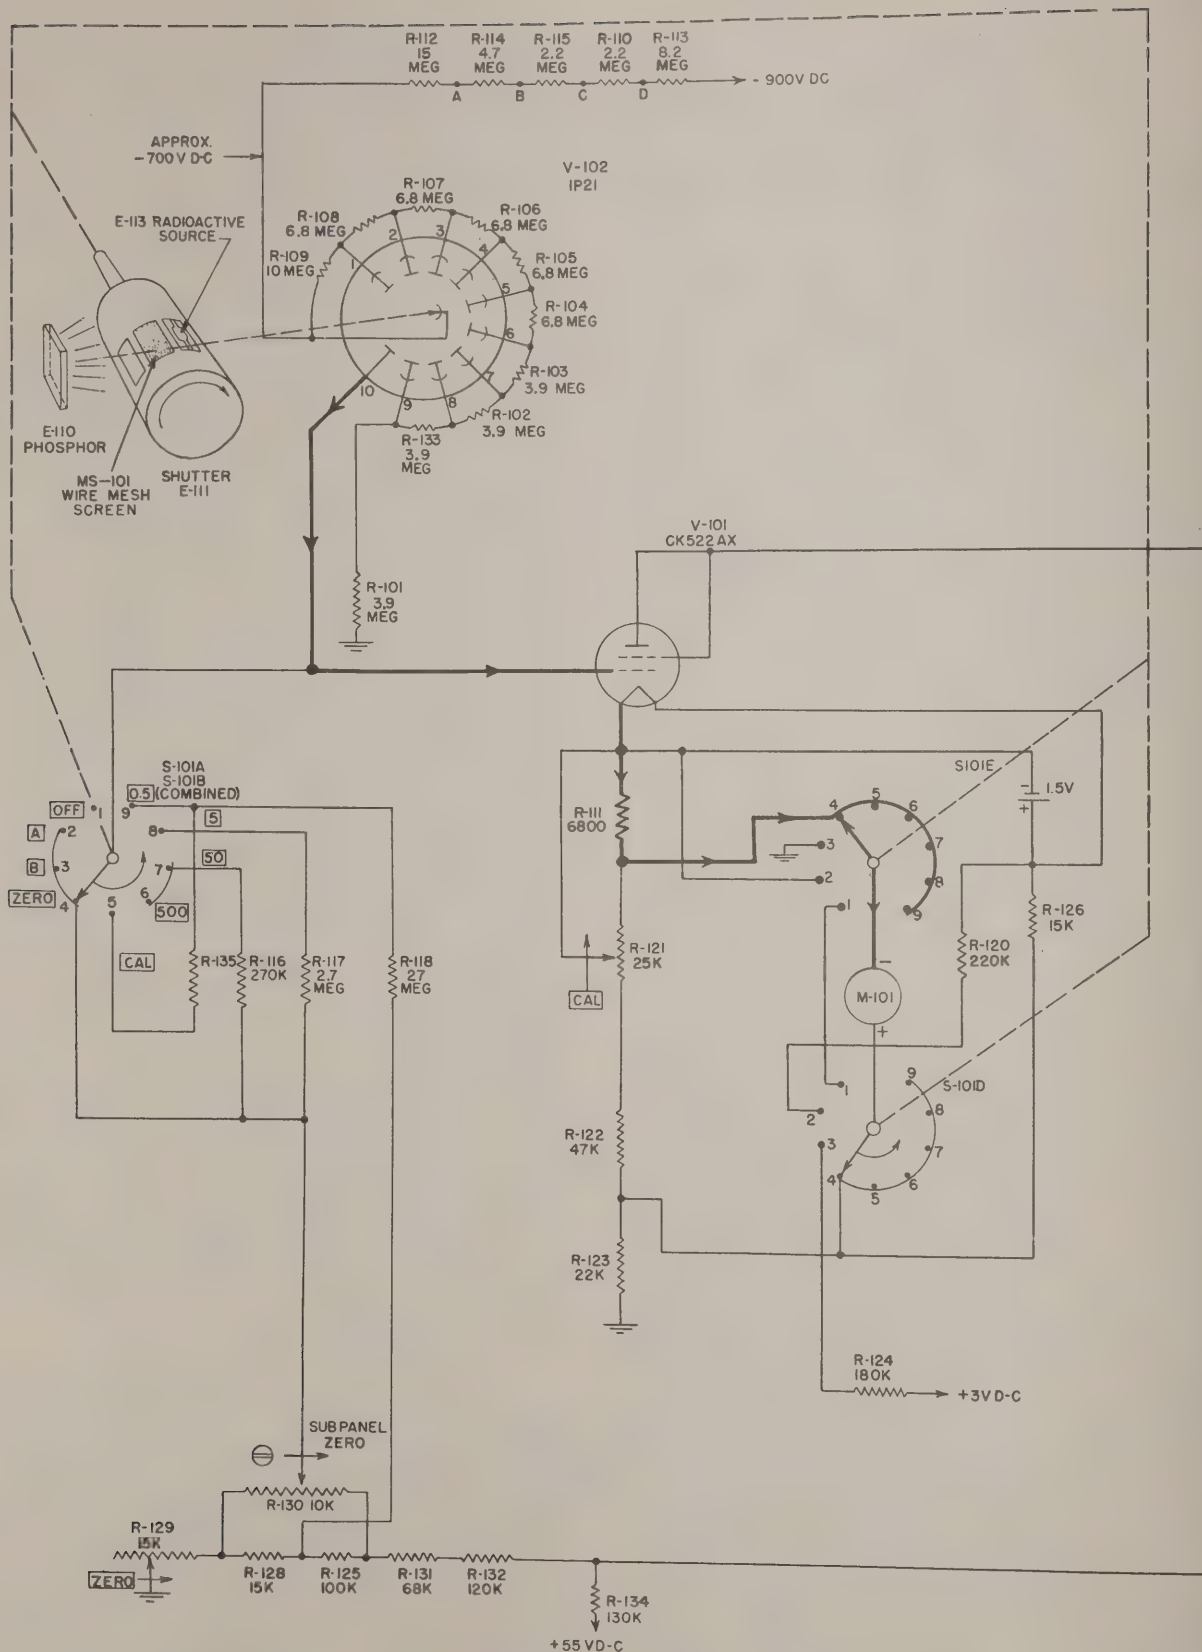

Figure 2-2. Radiacmeter IM-75/PDR-18A, Simplified Schematic Diagram
(1) The gamma radiation detection circuit of the Radiacmeter IM-75/PDR-18A, shown in figure 2-2 consists of a phosphor detector, E-110, a shutter, E-111, including Strontium-90 radioactive calibration source and a photomultiplier tube, V-102. The shutter is a rotatable cylinder surrounding the tube V-102. There are three apertures in the shutter E-111. When the range selector switch S-101 is turned to the CAL position, the shutter E-111 is rotated so that the radioactive calibration source contained in the first aperture is positioned in front of the phosphor detector E-110. The calibration source emits only beta rays which excite the phosphor detector E-110. Light from the phosphor E-110 passes through that part of the aperture of shutter E-111 not occupied by the calibration source and strikes photomultiplier tube V-102. Under this condition the circuit is adjusted for full scale deflection with the CAL control. When the selector switch is at the 500 position the shutter is positioned so that the second or middle aperture, which is covered with a fine mesh screen, is placed between the phosphor detector E-110 and the tube V-102. This screen is necessary to attenuate the light from the phosphor, on the highest range, because it is bright enough to cause a nonlinear response of the photomultiplier tube V-102. In the 50, 5, 0.5 positions of the selector switch, the shutter is positioned so that the third and largest aperture is placed between the phosphor detector E-110 and V-102. Photomultiplier tube V-102 contains a cathode, nine multiplying anodes and one collector anode. The nine multiplying anodes are called dynodes and function as secondary electron emitters. The potential of the cathode is highly negative with respect to ground while each dynode is progressively less negative until the collector is reached, which is practically at ground potential. Light quanta from the phosphor striking the cathode causes it to emit a number of electrons, proportional to the light quanta, in the direction of dynode 1. Since dynode 1 is positive with respect to the cathode, electrons are accelerated towards it. Each electron striking dynode 1 releases a number of secondary electrons which are attracted by another potential gradient to dynode 2, thus multiplying the current. This multiplication is repeated nine times through the dynodes producing a current gain of approximately one million. At the end of the dynode series, the collector anode attracts the electrons. The load resistor for V-102 is selected by section 1 of the range selector switch S-101, as shown in figure 2-2. The values of load resistors R-116, R-117, R-118 vary by a factor of ten as do the meter ranges. The signal voltage across the selected load resistor is applied to the control grid of V-101 which is operated as a cathode follower. Microammeter M-101 reads the change in cathode current resulting from the signal voltage on the control grid of V-101.
(2) The potential difference between each dynode of V-102 is determined by the bleeder resistor network R-101 through R-109, and R-133. A larger potential difference is applied between each of the first five dynodes than between each of the last four dynodes. The signal-to-noise ratio of V-102 is improved when the first few dynode stages are thus operated at a relatively high potential difference. However, such operation also results in increased over-all gain and increased current from collector anode 10. In order to limit the over-all current gain and to limit the maximum collector current to a safe value, a relatively low potential difference is applied between each of the last four dynode stages. Thus, a satisfactory signal-to-noise ratio results at a safe operating current for V-102. The potential difference between each of the first five dynode stages is about 75 volts while that between each of the last four dynode stages is only about 45 volts. The maximum current for collector anode 10 is limited to about 6 microamperes.
(3) Each photomultiplier tube has a different over-all current gain. The over-all current gain is determined by the total operating voltage applied to the cathode and, in proportion, to the various dynode stages. Hence, when changing tube V-102, it may be necessary to vary the total applied voltage in order to bring the current gain to satisfactory operating value. This is done by short-circuiting one or more of the resistors R-110, R-114 and R-115 at points A to D as shown in figure 2-2.
(4) The range of light intensities over which V-102 must operate exceeds the linear portion of its characteristic curve of current vs. light. Non-linearity at high light intensities introduces a serious error. In order to compensate for this characteristic a light attenuating screen is used to admit only one-tenth as much light for the 500 roentgens-per-hour range as is admitted for the 50 roentgens-per-hour range. Shutter E-111 is connected mechanically to the range selector switch S-101. When S-101 is in the 500 position, the middle aperture of shutter E-111 which contains the light attenuating screen, is brought into position between phosphor E-110 and V-102. Load resistor R-116, which is also used for the 50 roentgens-per-hour range, is connected at anode 10.
(1) The d-c signal voltage developed across the various load resistors R-116 to R-118 by the current from anode 10 of V-102 is applied to the control grid of V-101 which is operated as a cathode follower. The change in cathode current of V-101 in response to the signal voltage on the control grid is read on meter M-101. Refer to figure 2-2. When switch sections S-101D and S-101E are in the position shown two opposing currents flow through meter M-101. One current from the 1.5-volt battery through R-126 is constant and if unopposed would cause the meter needle to deflect up-scale. On the other hand, the sec-